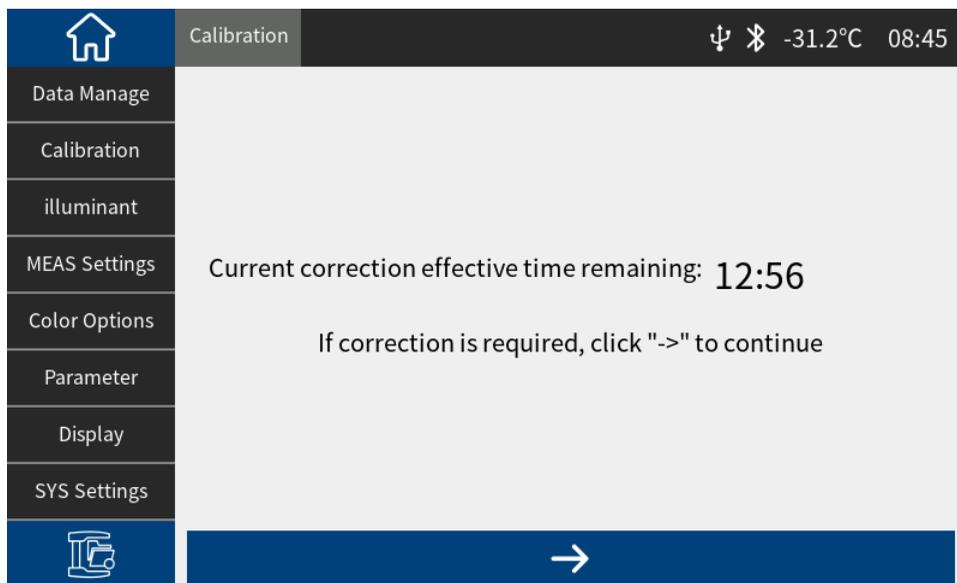

Figure 3 Black and White Calibration
1. Click "Black and White Calibration" on the main menu interface to enter the black and white calibration interface (Figure 3). The interface will display whether the current calibration is effective and the remaining time for calibration to be effective.